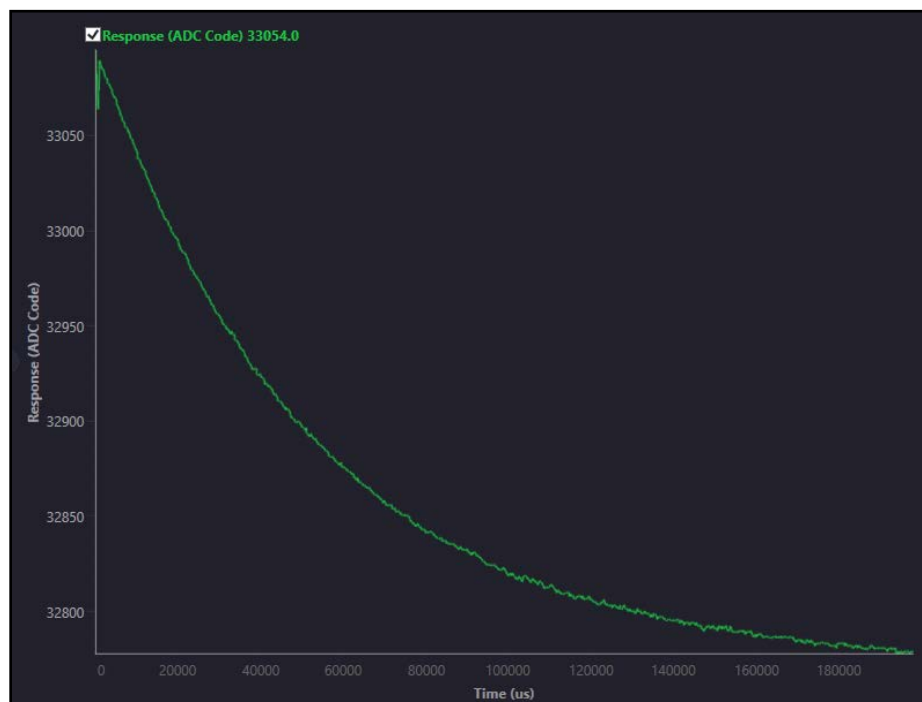

Figure 40. Amperometry Validation Test—TEST 1 Results
- When you have finished collecting data for TEST 1, the resulting graph should look similar to the one in Figure 40. As expected, the response current behaves as it would in a typical RC circuit.